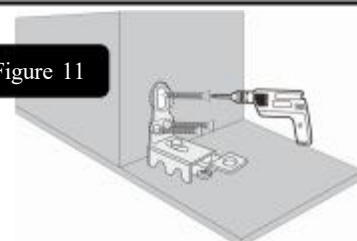

Figure 11
- **Step 3:** Fasten lower jamb pivot to jamb using long screws as shown (Figure 11).